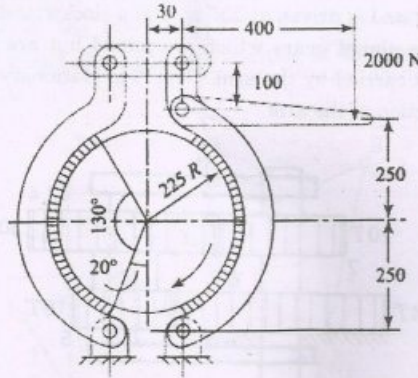

Fig. 3
- (b) The brake shown in Fig. 3 requires an actuating force of 2000 N at the end of the lever. Coefficient of friction is 0.3 and maximum pressure intensity = 1 MPa. Determine the width of the shoe and the braking capacity.